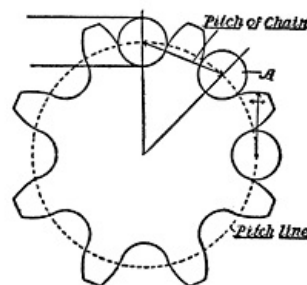

Fig. 125. Sprocket Wheel.
SPROCKET WHEELS.—For sprocket wheels the pitch line passes centrally through the rollers (A) of the chain, as shown in Fig. 125, and the pitch of the chain is that distance between the centers of two adjacent rollers. In this case the cut of the teeth is determined by the chain